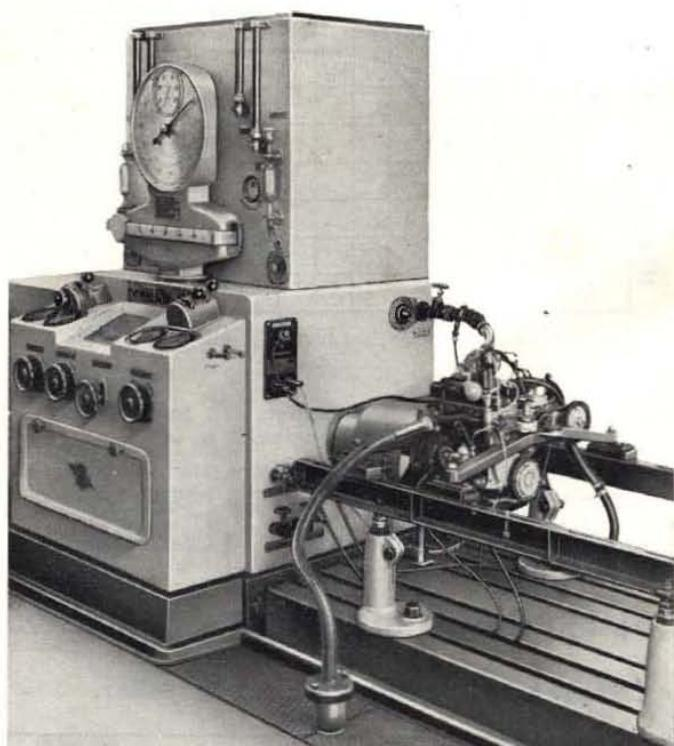

Fig. 121 - Engine on test bench.
- the engine exhaust manifold to the exhaust hose of test bench (fig. 121);